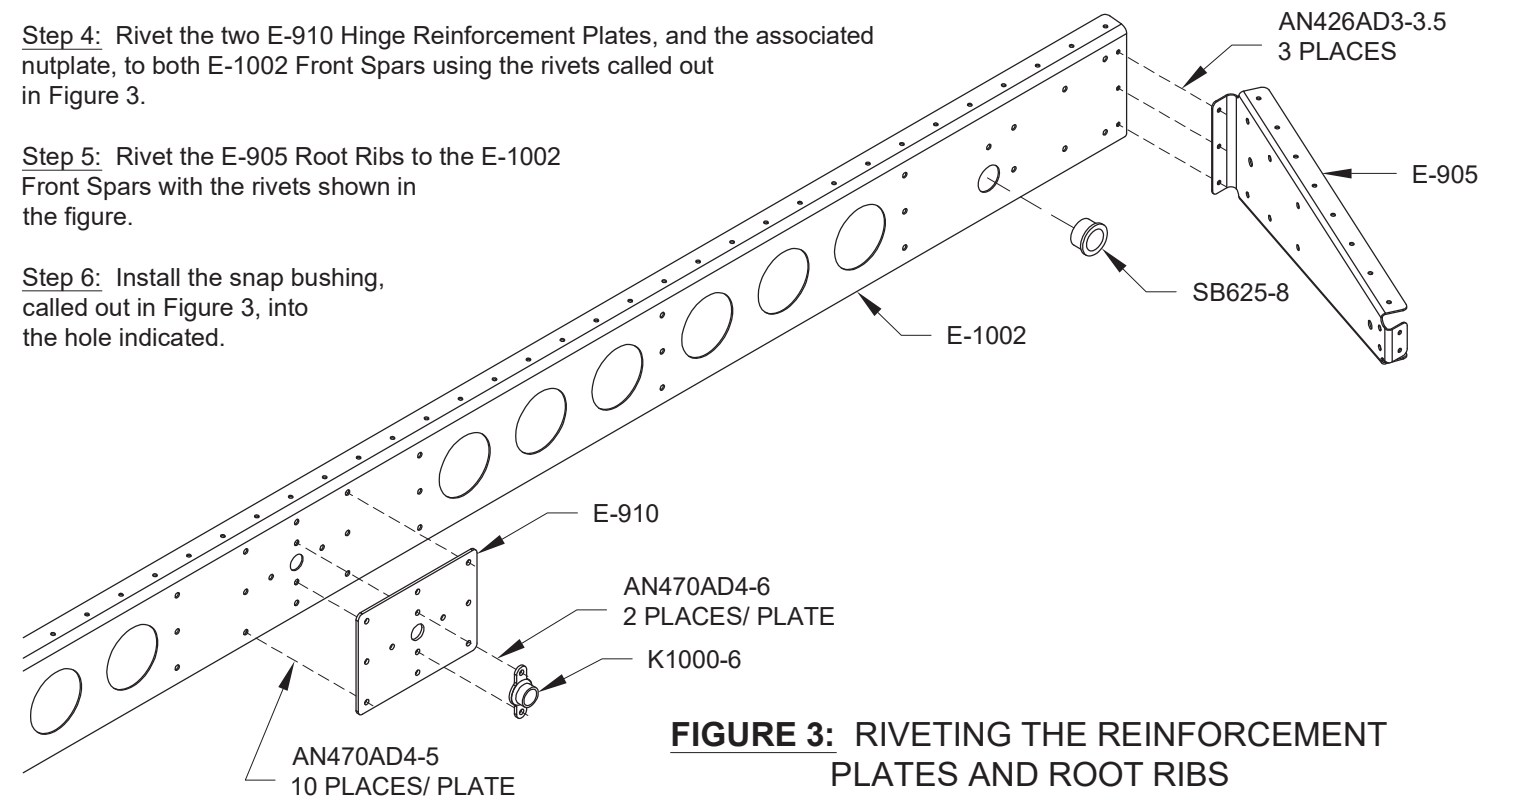

FIGURE 3: RIVETING THE REINFORCEMENT PLATES AND ROOT RIBS
Step 4: Rivet the two E-910 Hinge Reinforcement Plates, and the associated nutplate, to both E-1002 Front Spars using the rivets called out in Figure 3.
Step 6: Install the snap bushing, called out in Figure 3, into the hole indicated.